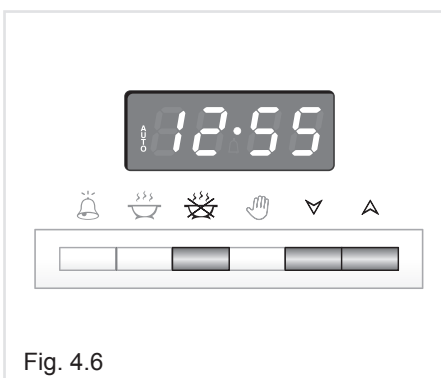

Fig. 4.6
2. Set the end of the cooking time by pressing the button (the cooking time already added to the clock time will appear), and the button (fig. 4.6); if you pass the desired time you may get back by pushing the button.